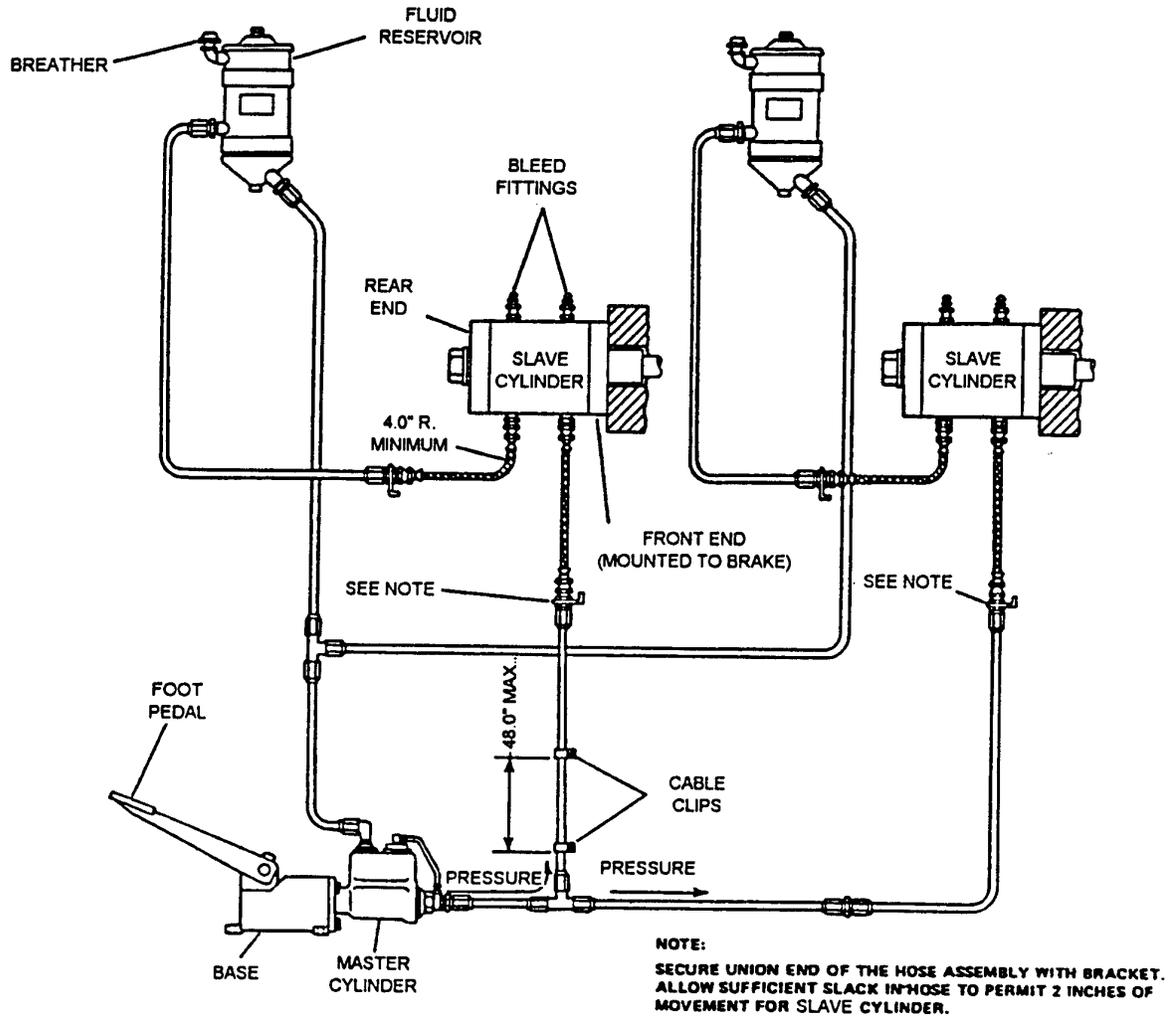

Figure 7
- 2.3.(e):** Single brake, two stations, with remote electric bleed. See Fig. 7.